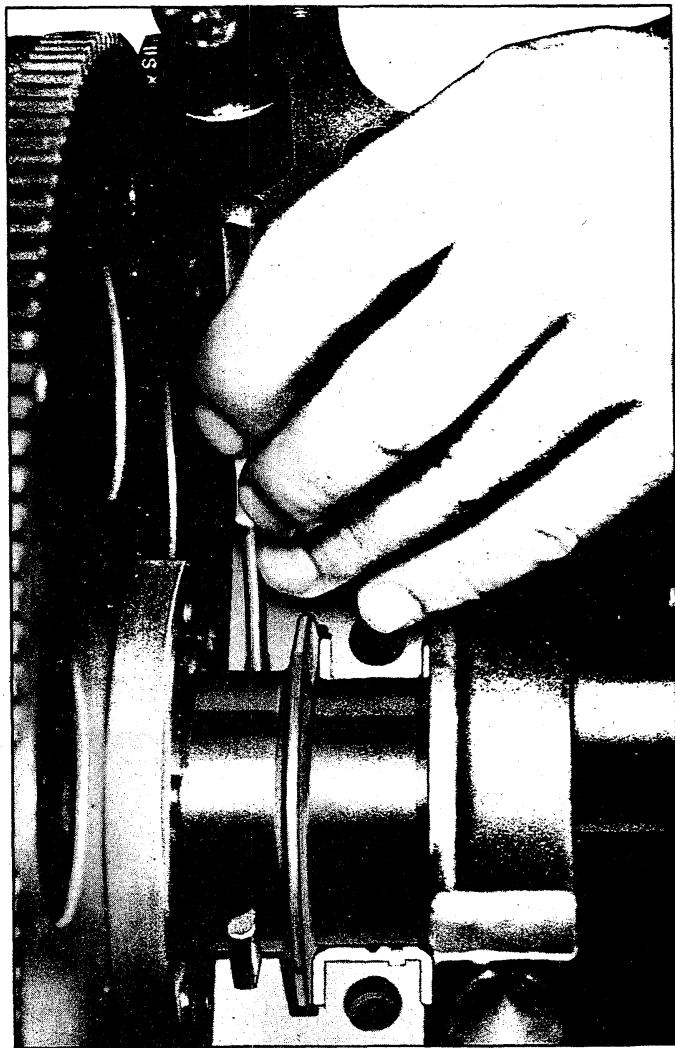

Fig. 8L - Removing Oil Seal (Upper Half)
4. To remove the upper half of the seal, use a small hammer to tap a brass pin punch on one end of seal until it protrudes far enough to be removed with pliers (fig. 8L).